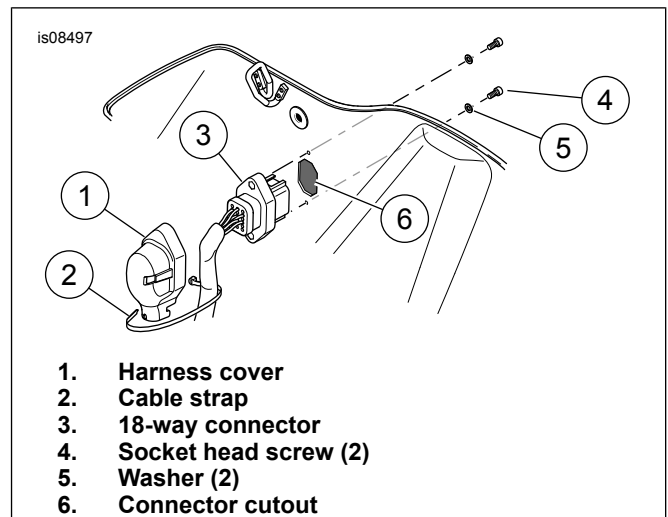

Figure 4. 18-Way Connector and Cover Installation
3. See Figure 4. Insert the pin side 18-way bulkhead connector (3) from the saddlebag harness through the saddlebag hole from the inside. Secure the connector from **outside** the saddlebag with two socket head screws (4) and washers (5). Tighten.